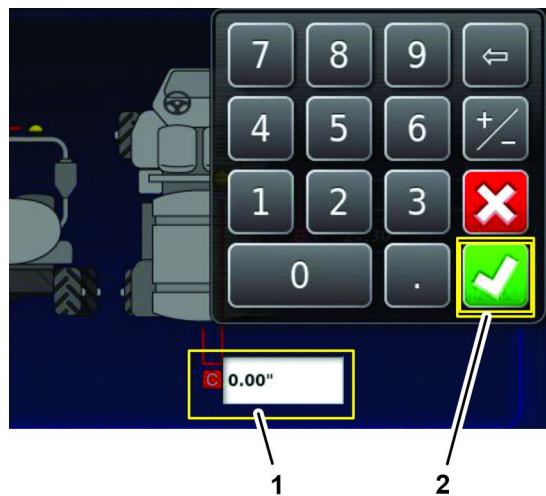

Figure 191
1. Rear axle centerline and satellite receiver center icon (B)
3. Press the machine centerline and satellite receiver center icon (C), use the on-screen keypad to enter the measurement that you recorded in the vehicle-geometry form of Measuring the Vehicle Geometry \(page 82\), and press the confirm icon (Figure 191).